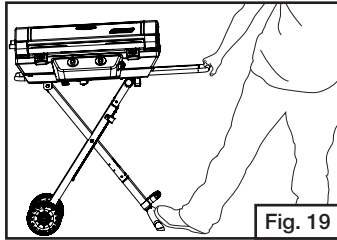
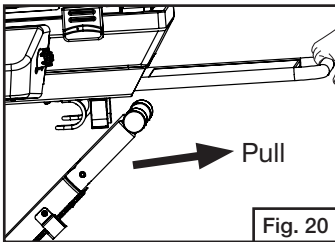
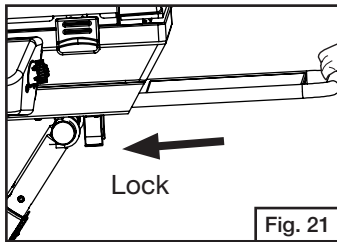

Fig. 19
Fig. 20
Fig. 21
- Lower grill and slide grill back until leg extensions lock into brackets on bottom of grill stand. (Fig. 19, Fig. 20 and Fig. 21)